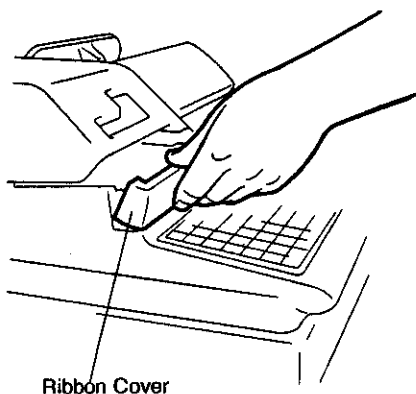

Fig. 1
1. Remove the Ribbon Cover (Fig. 1).